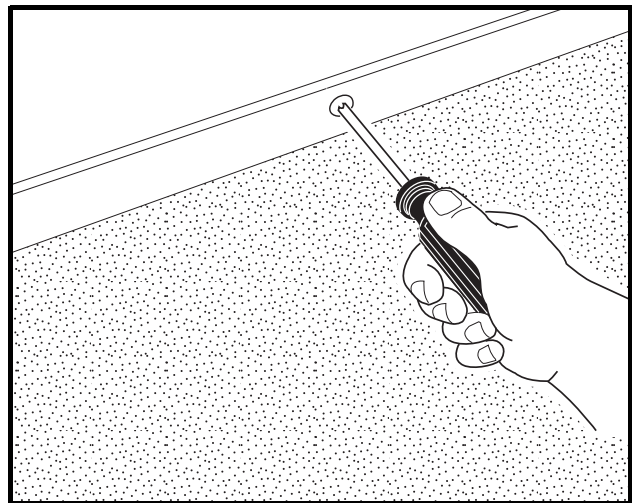

Figure 4-8 Kick-Plate Screws
6. Remove two screws, washers and nuts located at the bottom edge of the seat support panel (in kick-plate just above the floor mat) (**Figure 4-8, Page 4-7**).
- 1.1. Tighten kick-plate nuts to 48 in-lb (5.4 N·m) while holding the kick-plate screws **(Figure 4-8, Page 4-7)**.